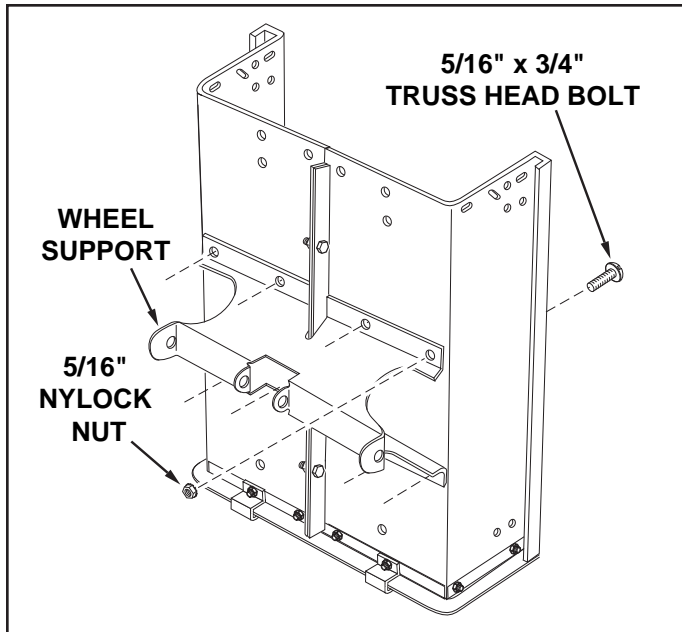

FIGURE 4
7. Assemble the wheel support to the bottom of the cart using eight 5/16" x 3/4" truss head bolts and 5/16" nylock nuts as shown in figure 4. Heads of bolts go on the inside of cart. **Tighten.**